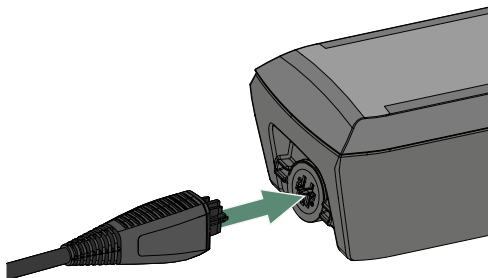
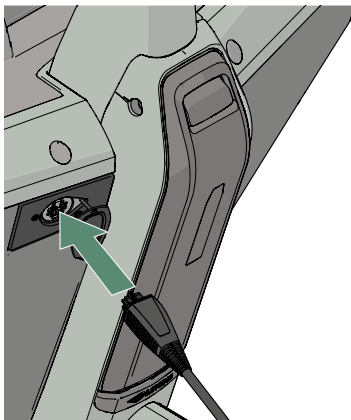

Figure 14 - Inserting the charging plug into the battery.
Figure 15 - Putting the charging plug into the charging port
4. Insert the charging plug of the charger into the battery 32 (Figure 14) or charging port (Figure 15).